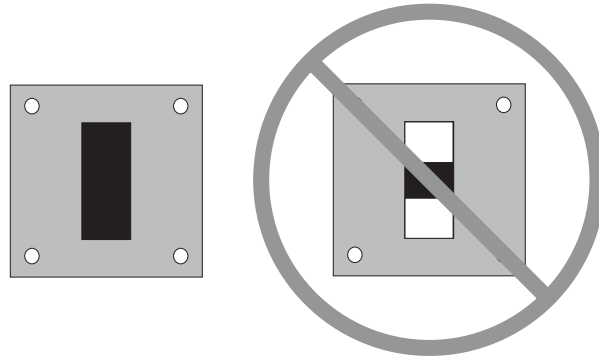

Figure 5-24 Installing the waveguide gasket properly.
12. **Reconnect the waveguide sections and tighten the stabilizers.** Do not forget to install the waveguide flange gasket between the two flanges; make sure it is oriented correctly. (See Figure 5-24.) Position the cavity in the center of the magnet air gap by moving the bridge on the table. Carefully tighten the stabilizers. Be careful not to stress the waveguide when expanding the stabilizers. Reconnect the nitrogen purge line and adjust the flow rate for a light flow.